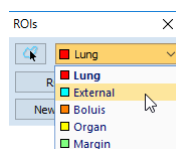

Figure 239 – Selecting the current ROI
- Click the **Select ROI...** button in the **ROIs** dialog, and select the ROI from the displayed drop-down list (see Figure 239).